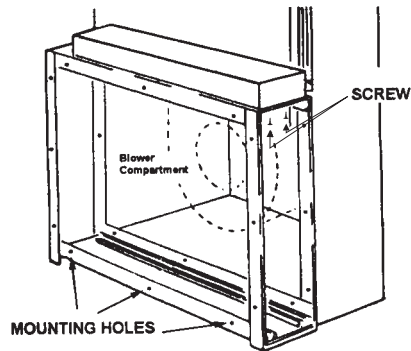

Figure 7
**CAUTION:** Only a trained, experienced serviceman should install this electronic air cleaner. The power supply should be removed before installation. To remove the power supply, remove the two (2) screws (See Figure 7) in the top front of the cabinet. Remember to keep this hardware for reinstallation of the power supply when the air cleaner installation is complete. A thorough checkout of the unit installation should be completed before unit operation.
8. Mounting holes are provided for ductwork attachment (Figure 7). The .140" holes are sized for #8 sheet metal screws, or 1/8" rivets. If the adjoining ductwork is flanged, install the screws so that the screw heads are inside the cabinet. This will prevent damage to the prefilters and optional charcoal after-filter during removal and installation after cleaning.